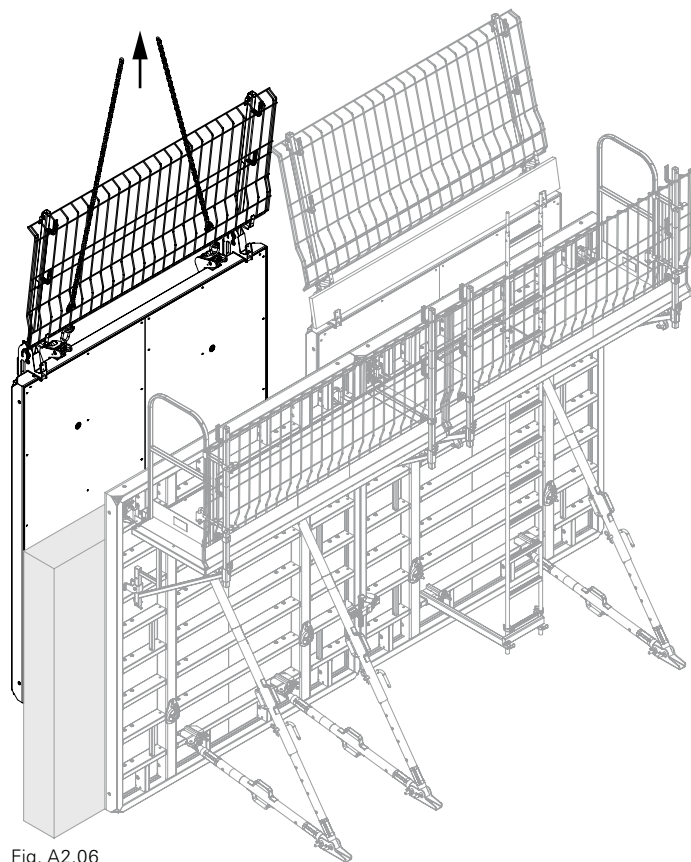

Fig. A2.06
6. Release the 2-sling lifting gear. (Fig. A2.06)